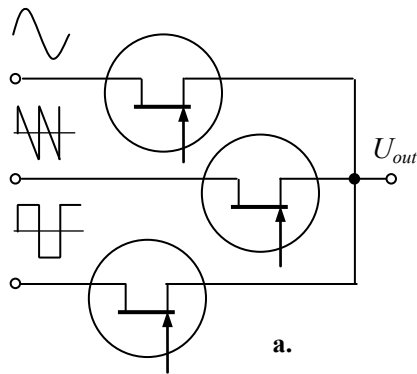

Fig. 2.44
**Multiplexer.** Fig. 2.44 shows a *multiplexer*, a multiple switch that steers one of the input signals to the output. Each JFET in Fig. 2.44,a acts like a single-pole single-throw switch, which can transmit data inputs by setting one of the address inputs. The circuit symbol in Fig. 2.44,b has data inputs D, address inputs A, and the blocking input E, which closes the output for a time of switching.